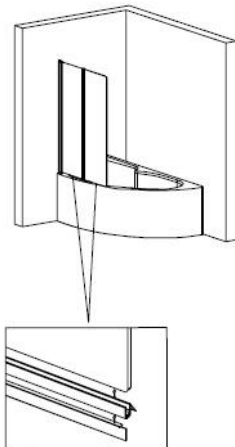

Fig.4
3. (Fig.4) Install the rubber seal under the bottom.